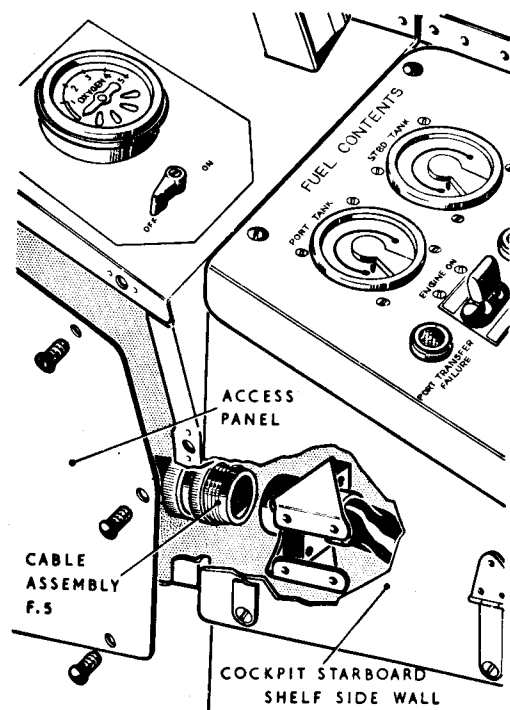

Fig. 4 Plug at forward end of cockpit starboard shelf
- (1) Render the aircraft electrically safe, as described in Group A.1 of this chapter.
- (2) Disconnect all the plugs and sockets on the cable assemblies at the end plate at the rear end of the shelf. Seal off the plugs and sockets with approved caps and covers and stow the cable assemblies away from the shelf.
- (3) Disconnect cables assemblies F33 and F34 from the A.C. junction box and HW1 from the height warning junction box. Fit approved caps and covers to the plugs and sockets and coil back the cable assemblies to the starboard shelf.
- (4) Disconnect cable assembly F5 from the plug mounting bracket at the forward end of the shelf (fig.4). Seal off the plug and socket with an approved cap and cover. Stow the cable assembly clear of the shelf.
- (5) Remove the mounting frame, carrying the D.M.E. control unit from the top surface of the shelf, by unscrewing the four screws. Disconnect the radio connector from the control unit and refit the mounting frame and control unit.
- (6) Release the emergency oxygen control cable duct, from the shelf side wall, by removing the bolt securing the clip